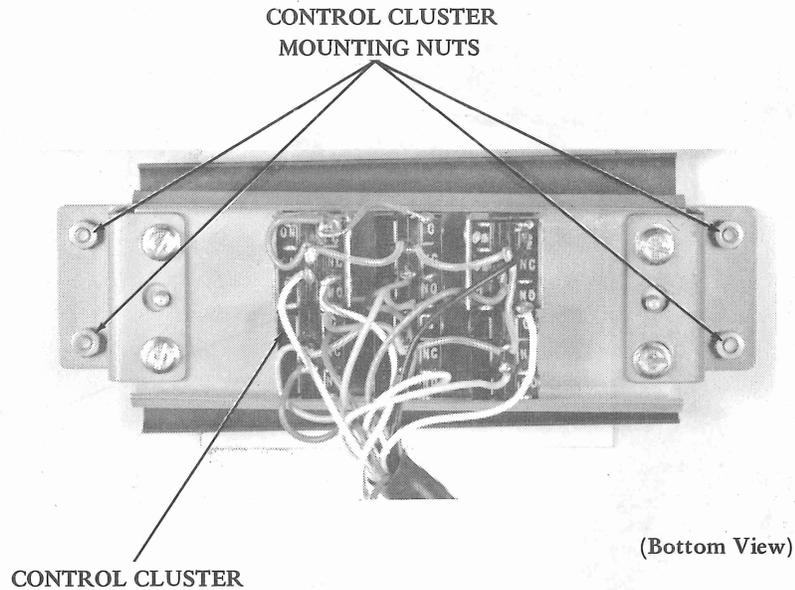

Figure 7 - Control Cluster
4.06 To remove the control cluster (Figure 7) from the cabinet top, proceed as follows: